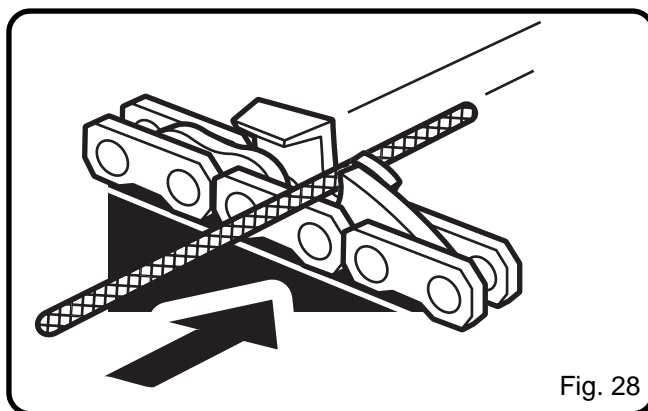

Fig. 28
- Keep the file level with the top plate of the tooth. Do not let the file dip or rock. See Figure 28.